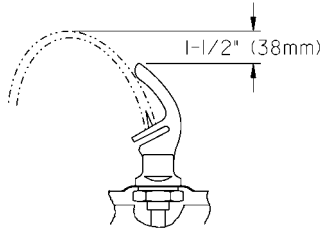

FIG. 8
7. **Check stream height from bubbler.** Stream height is factory set at 45-50 PSI. If supply pressure varies greatly from this, adjust screw on regulator (Item 9). Clockwise adjustment will raise stream height and counter-clockwise adjustment will lower stream height. For best adjustment stream height should be approximately 1-1/2" (38mm) above the bubbler guard. (See Fig. 8).